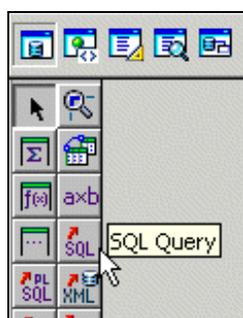

Figure 5
- 3) In the *Report Editor - Data Model* window that pops up, click the *SQL Query* button (middle row, second column) on the left toolbar (Figure 5)